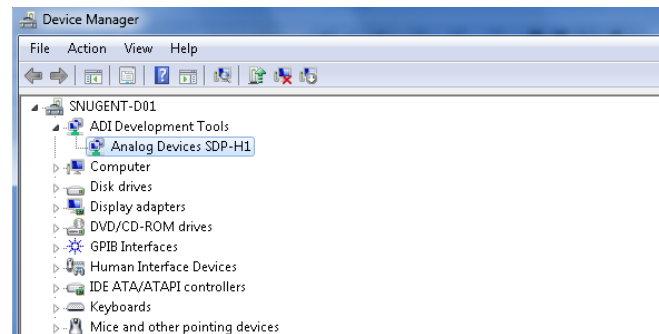

Figure 11. Device Manager:
- b. Under **ADI Development Tools**, **Analog Devices SDP-H1** should appear (see Figure 11), indicating that the EVAL-SDP-CH1Z driver software is installed and that the board is connected to the PC correctly.